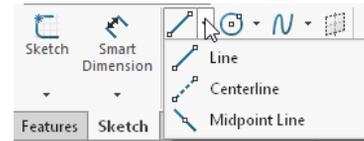

Figure 2-20 The **Line** flyout
- Click on the down arrow next to the **Line** tool; the **Line** flyout is displayed, refer to Figure 2-20.